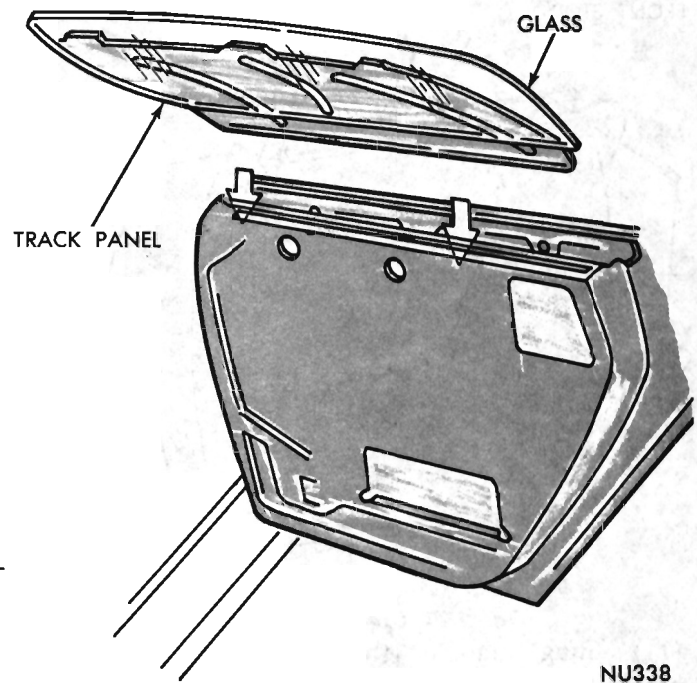

Fig. 32 - Track Panel Assembly
(10) Remove U-nuts from outer side of track panel and bumpers from top inner side (Fig. 32).